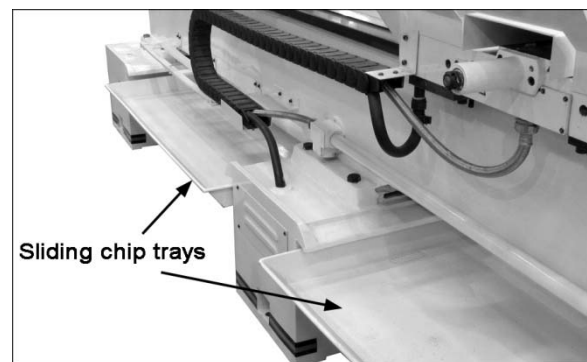

Figure 17 – GH-26120ZH chip trays
***GH-26120ZH***: Pour coolant (approx. four gallons) into one of the chip trays (Figure 17). Or, slide out one of the chip trays and pour directly into the side trough on the center stand.